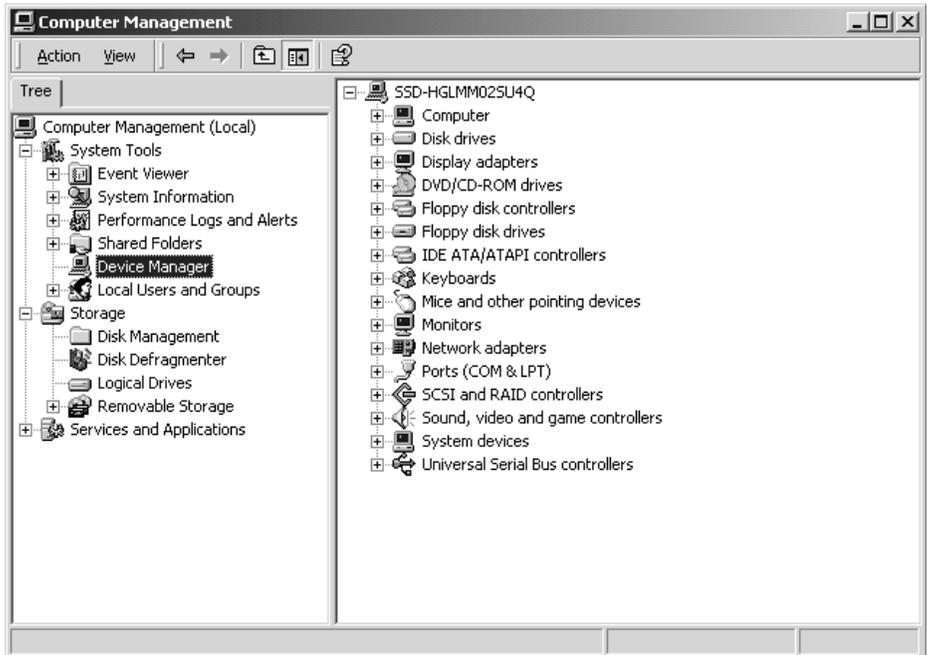

Figure 24. Device Manager Menu
6. A **Computer management** window should open. Double-click **Device Manager** under the **System Tools** tree. See Figure 24.